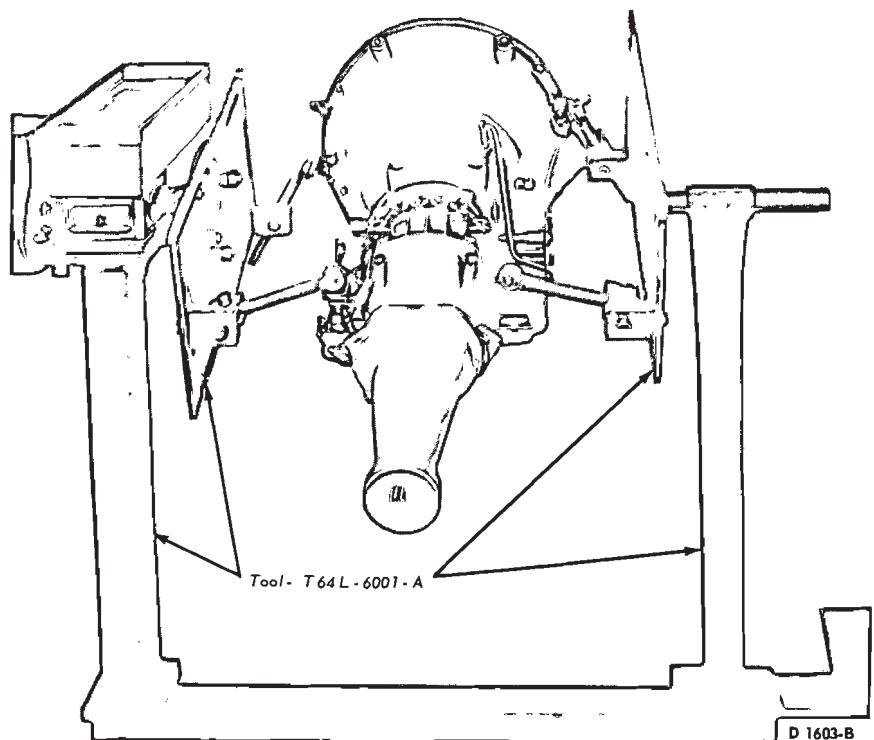

FIG. 22—Transmission Mounted in Holding Fixture
1. Mount the transmission in holding fixture T64L-6001-A (Fig. 22).